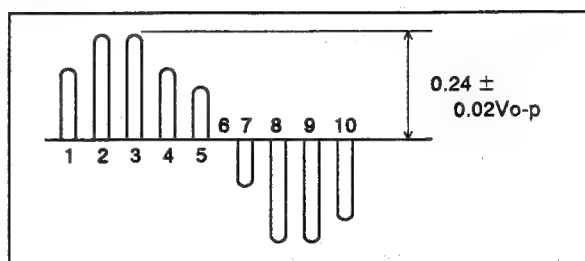

Fig. 21
6. Adjust R4838 (Sub Colour) so that the level is  $0.24 \pm 0.02V_{o-p}$ . (See Fig. 21)